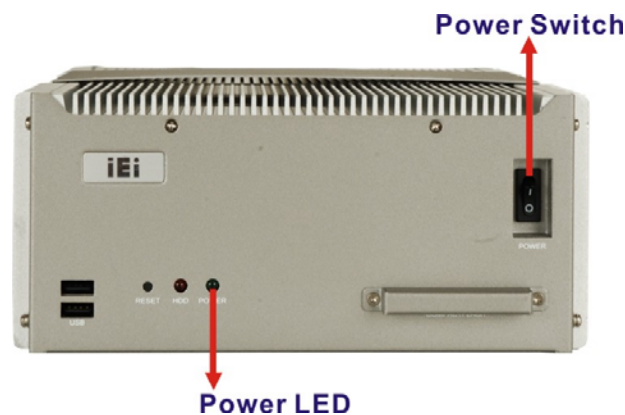

Figure 4-17: Power Switch and Power LED
Step 6: Turn on the power switch (Figure 4-17).